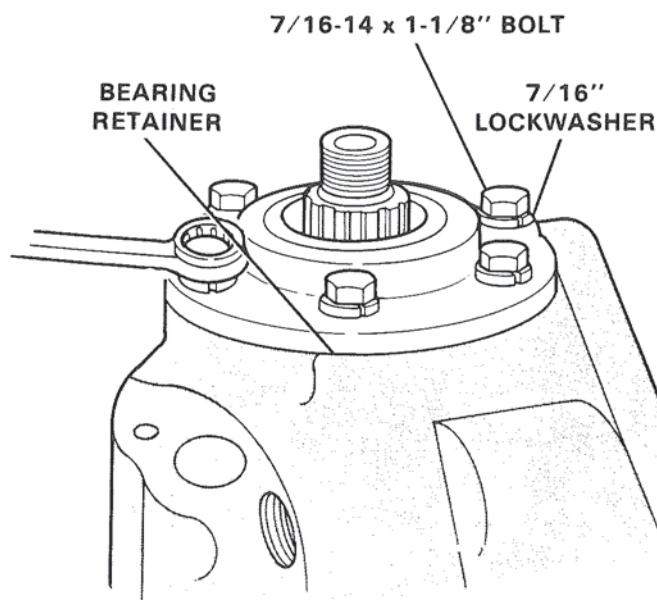

Figure 36. Disassembling Bearing Retainer on Rear of Case.
8. Remove six (6) hex head bolts and lockwashers. Figure 36.